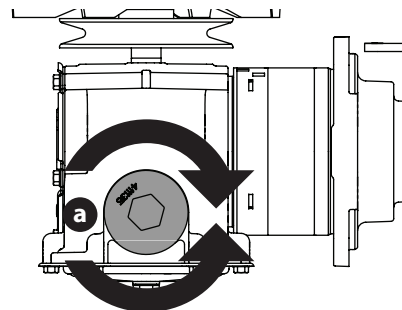

Figure 48
2. Place a suitable container under the drain plug (a) on the transmission. Remove the drain plug (a) and allow the transmission oil to drain (Figure 48).